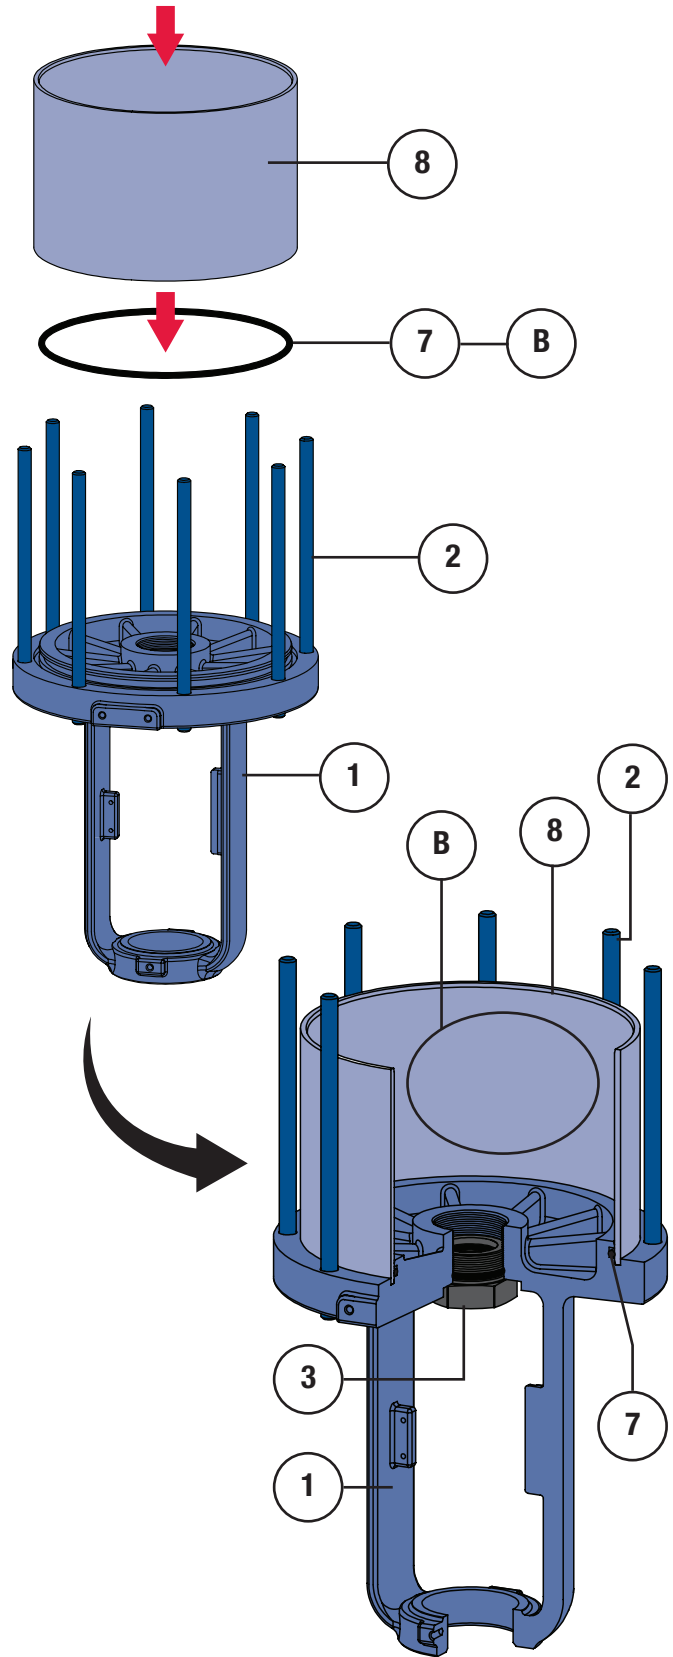

Figure 23 Cylinder Installation
- 1 Apply Dow Corning Molykote® 5 (Key B) to the cylinder o-ring (Key 7) and install it into the o-ring groove of the yoke (Key 1) as shown in Figure 23.
- 2 Apply Dow Corning Molykote® 5 (Key B) to the inside surface of the cylinder (Key 8) and then install the cylinder onto the yoke (Key 1) so that it seats as shown in Figure 23.